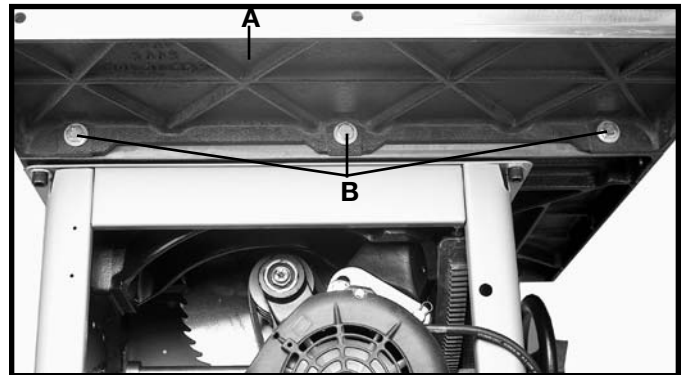
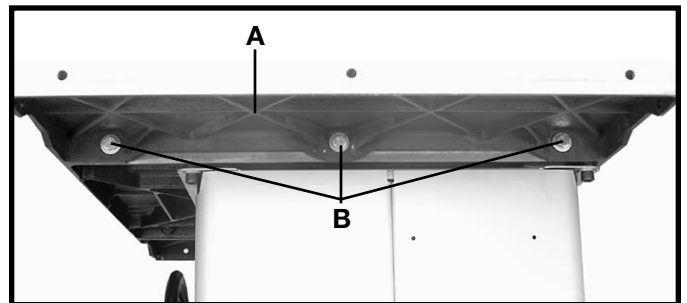

Fig. 7
Fig. 9
Assemble the extension wings (A) Fig. 7 and Fig. 9, to the saw table using the six 7/16"-20x1 1/4" hex head screws (B) and 7/16" flat washers supplied. Use a straight edge (C) Fig. 8, to make sure the extension wings (A) are level with the saw table before tightening the screws (B) Fig. 7 and Fig. 9. **NOTE: MAKE SURE FRONT EDGE OF WING IS FLUSH TO OR SLIGHTLY BEHIND THE FRONT EDGE OF THE TABLE.**